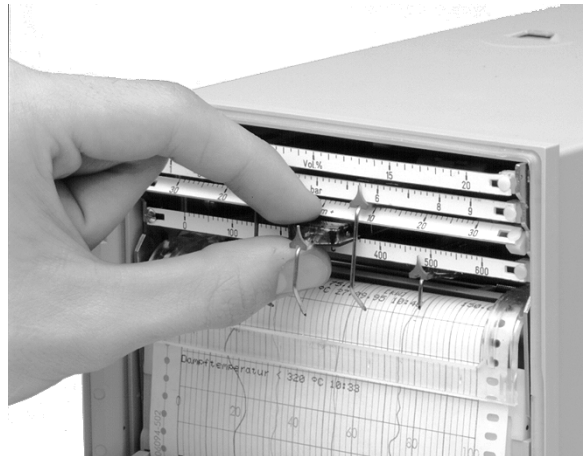

Figure 8 Installing the fiber pen insert / print insert
2. Install the fiber pen insert / print insert according to figure 8.